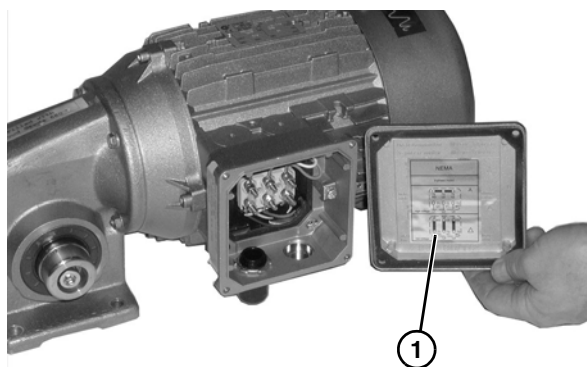

Figure 22
2. Refer to the wiring diagram (Figure 22, item 1) on the inside of the junction box cover.